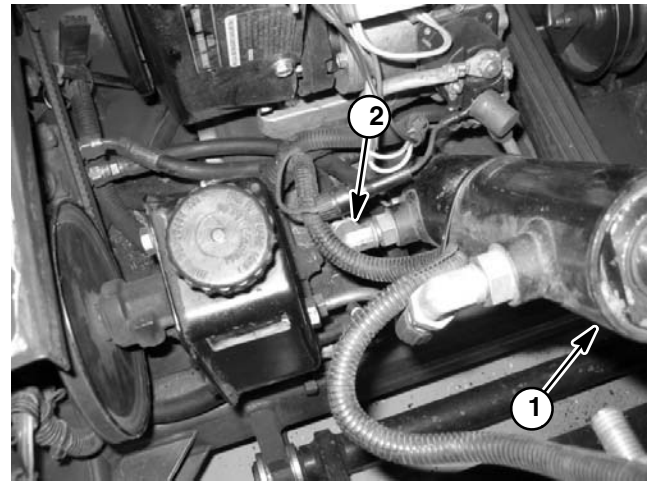

Figure 12
6. Disconnect hydraulic hose from lower fitting on lift cylinder (Fig. 12). Install T-fitting with pressure gauge between disconnected hose and lower fitting on lift cylinder.